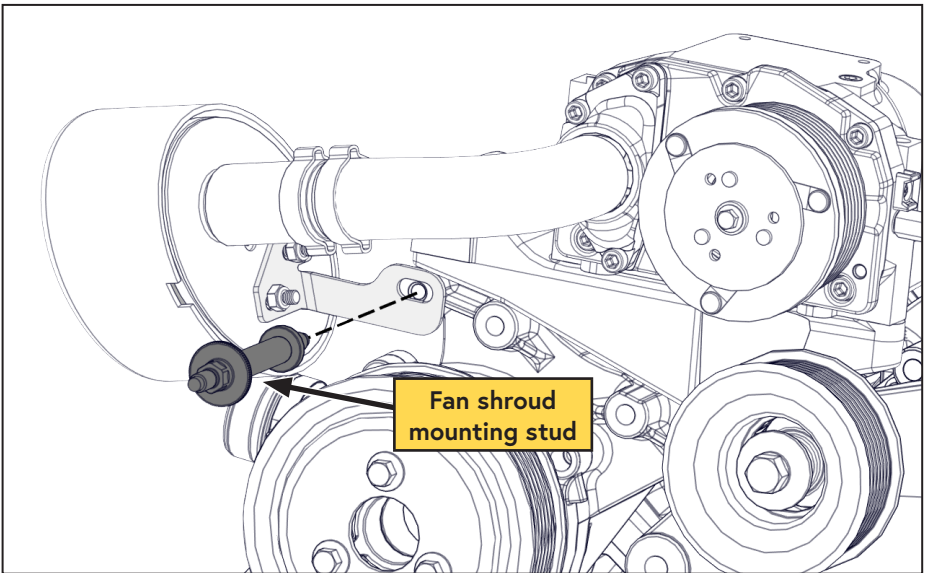

Figure 18 — Securing the filter assembly
- Secure the VMAC air filter bracket in place using the fan shroud mounting stud (Figure 18).